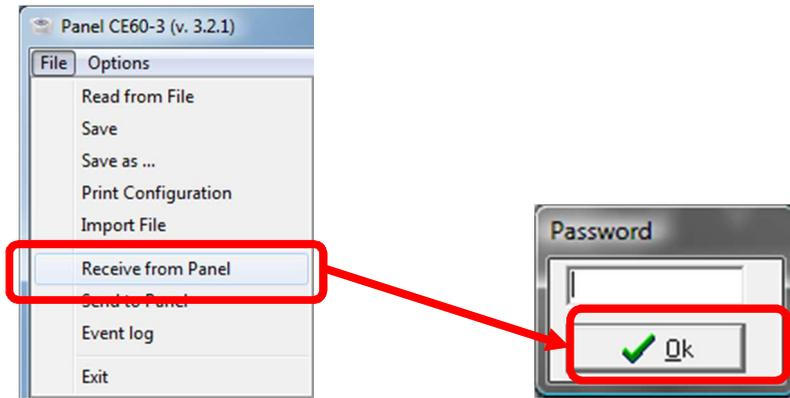

Figure 3
- Proceed downloading from control panel its configuration. Click on File menu and select “Receive from Panel” (Fig. 3). Press “OK” (insert password if any).